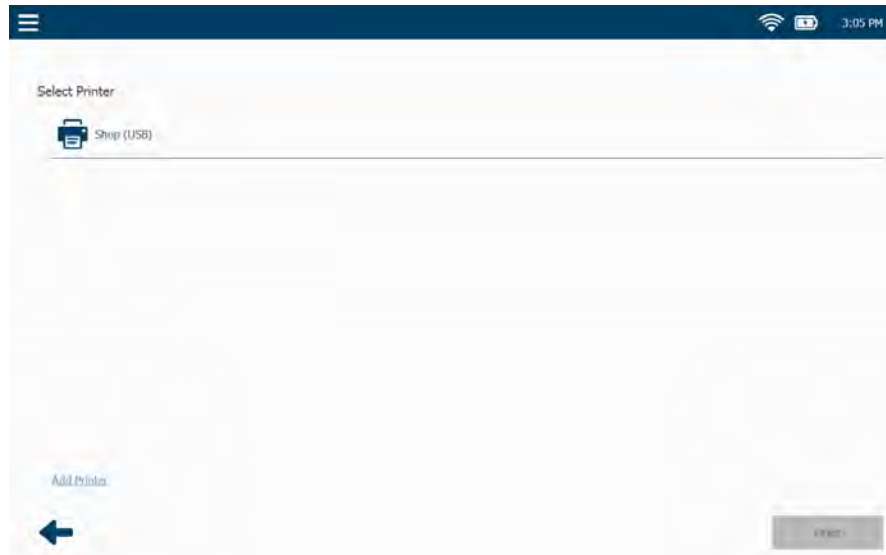

Figure 5.7 Select Printer Screen
- Touch **Print** to send the report to a printer using the Select Printer screen (Figure 5.7).